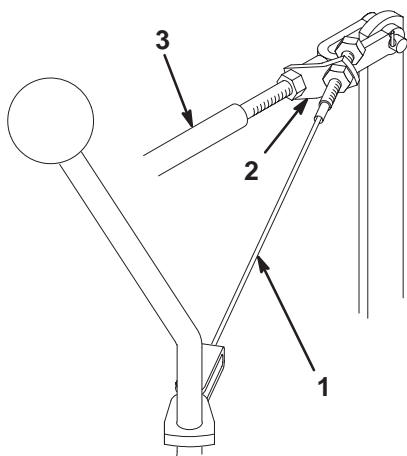

Figure 54
1. Loosen the front jam nut securing the cable assembly to the mow/lift control rod bracket (Fig. 54).
3. While holding the mow/lift control rod in the rear position, tighten the rear locknut to remove almost all of the slack from the cable assembly (Fig. 54). Do not over-tension the cable.